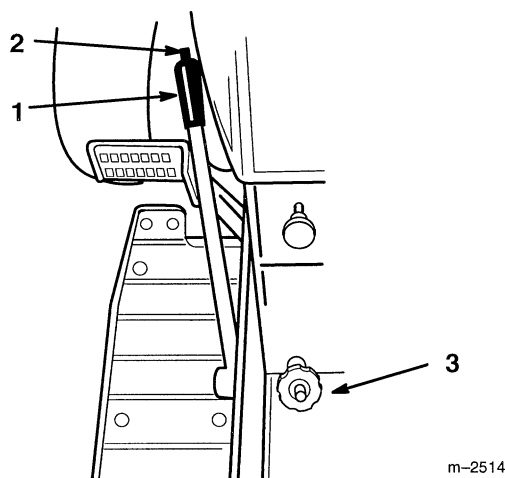

Figure 10
The attachment lift lever (Fig. 10) is used to raise and lower various attachments.
The Dial-A-Height control (Fig. 10) is used to limit the downward travel of the attachment. The knob is rotated to change the location of this stop, up or down.
1. Raise the attachment lift lever: Refer to Raising Attachments. In the raised position the Dial-A-Height knob (Fig. 10) can be rotated to change the stop location. Turn right to raise and left to lower the height of the attachment.